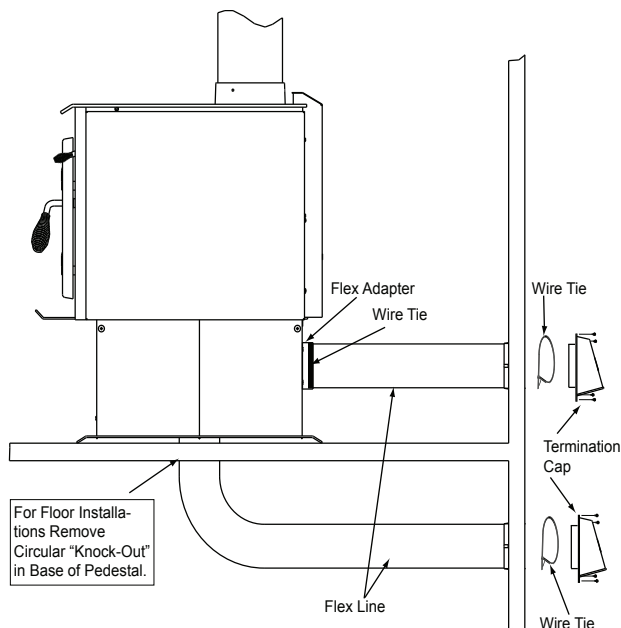

Figure 38.1 - Floor & Rear Installation
2. Using a #2 Phillips screw driver attach the flex adapter to the appliance using 4 screws. Secure with wire tie (**Figure 38.1**).
In some instances you may not be able to install the flex pipe as show in **Figure 38.1**.